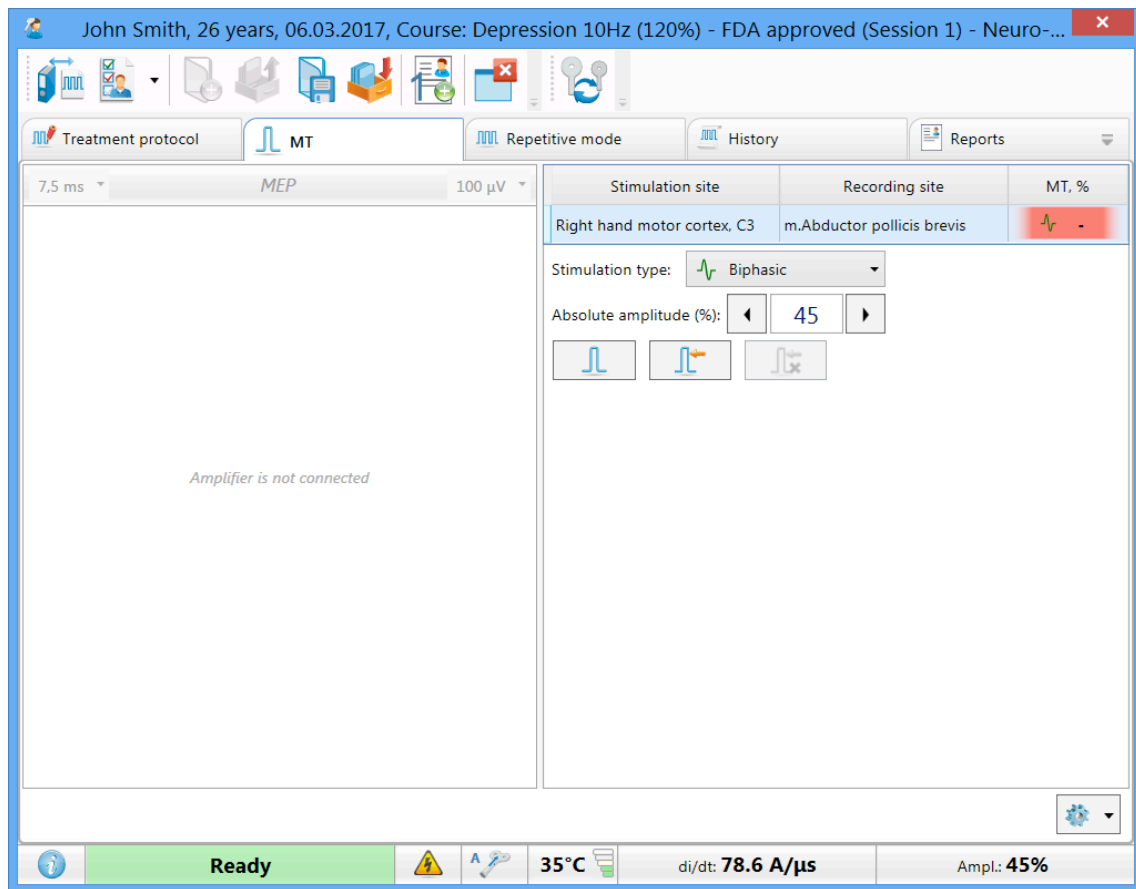

Fig. 61. The “MT” page.
“MT” tab (Fig. 61) allows to perform single pulse stimulation or to detect motor threshold (MT) using a target muscle.